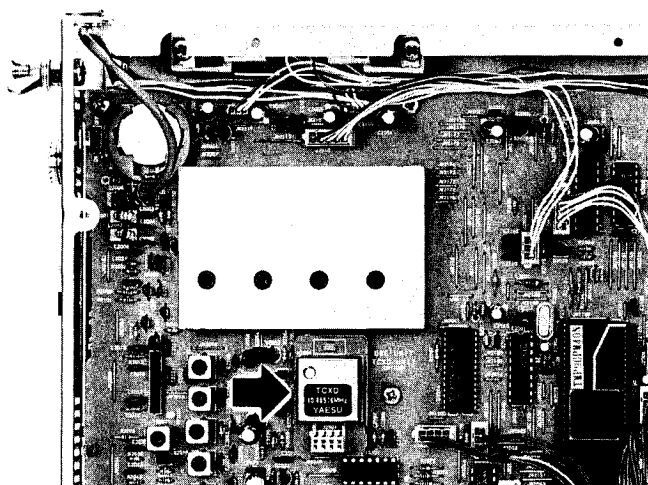

Fig. 8 TCXO Installation
- Press down gently with even pressure on both ends, until the TCXO board is firmly seated, and the top of the nylon stand-off mount pushes up through the hole in the board, locking it in place (Fig. 8). You may now replace the cover.